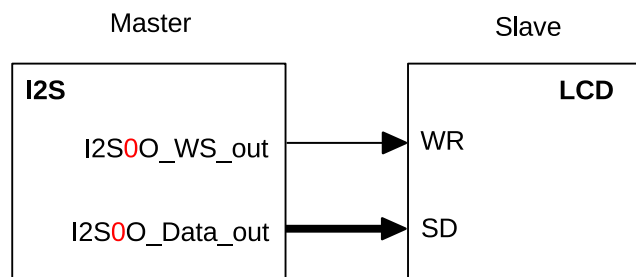

Figure 3-12. LCD Master Transmitting Mode
As shown in Figure 3-12, LCD WR signal is connected to I2S WS signal. The data width can be set to 8/16/24 bits (parallel), depending on the configuration of `I2S_TX_BITS_MOD[5:0]`.
2. Configure signal pins according to Table 10 and Figure 3-12.